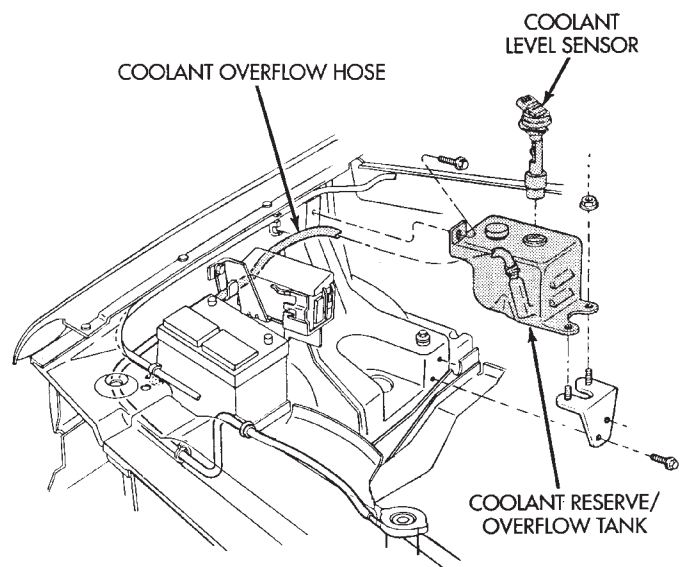

Fig. 78 Coolant Reserve/Overflow Tank Mounting
- (1) Disconnect negative battery cable at battery.
- (2) Remove cover over electrical connectors. Cover snaps onto PCM.
- (3) Remove the coolant reserve/overflow tank (one bolt and two nuts) (Fig. 78).